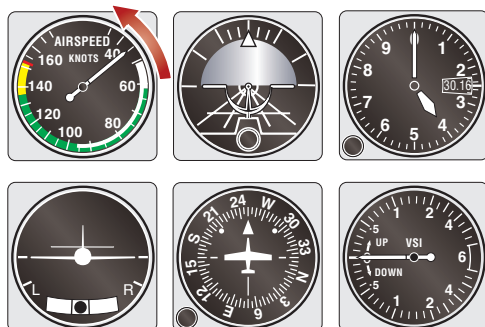

Figure 29-24 Question 4.
- What is the situation in figure 29-24 if maximum power has been applied?